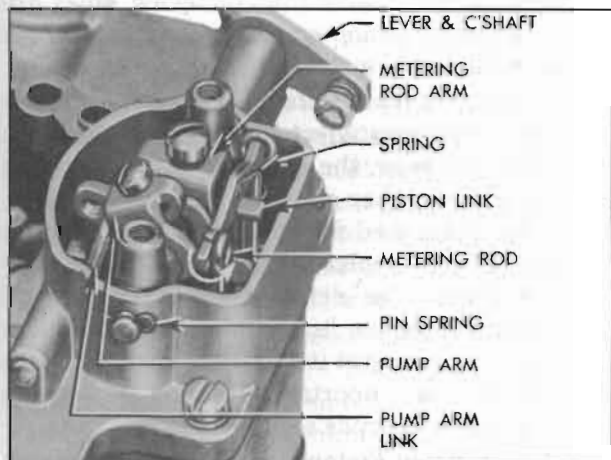

Figure 3-30—Removal of Metering Rods and Operating Parts
4. Remove dust cover. Rotate eyes of metering rods off pins on vacuum piston link and lift rods out, using care to avoid bending them. See figure 3-30.
5. Loosen screws in metering rod and pump arms, and remove pump arm link. Remove pin spring from end of pump operating countershaft, pull countershaft out and remove arms at the same time. See figure 3-30.
18. Coat pump operating countershaft with light graphite grease and start it into bearing in bowl cover. While holding metering rod arm so that it engages opening in vacuumer piston link and pump arm so that it extends over pump plunger rod, push countershaft through both arms, then install pin spring in groove in end of countershaft. See figure 3-30.
22. Insert end of each metering rod in hooked end of metering rod spring, carefully push rod down to enter metering rod jet, then rotate eye of rod over pin on vacuumer piston link. Use care to avoid bending metering rod. See figure 3-30.